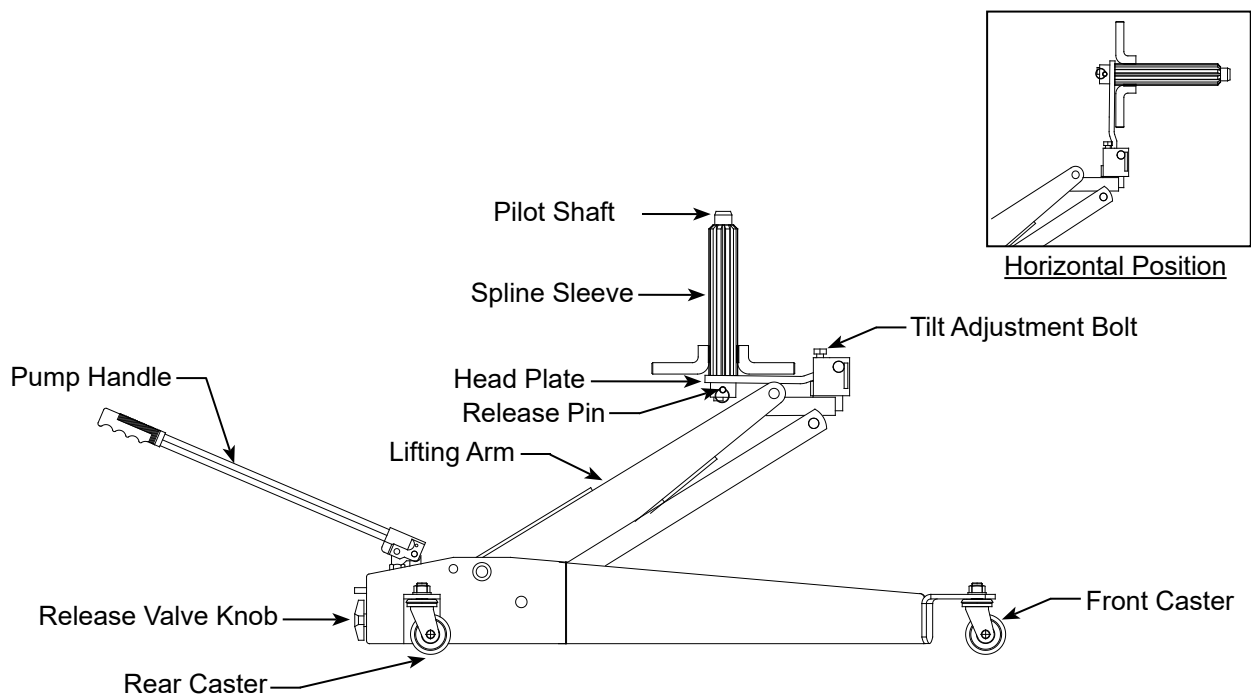

Figure 1 - Model 40500 Components
3. To familiarize yourself with basic operation, locate and turn the release valve knob (see Fig 1):